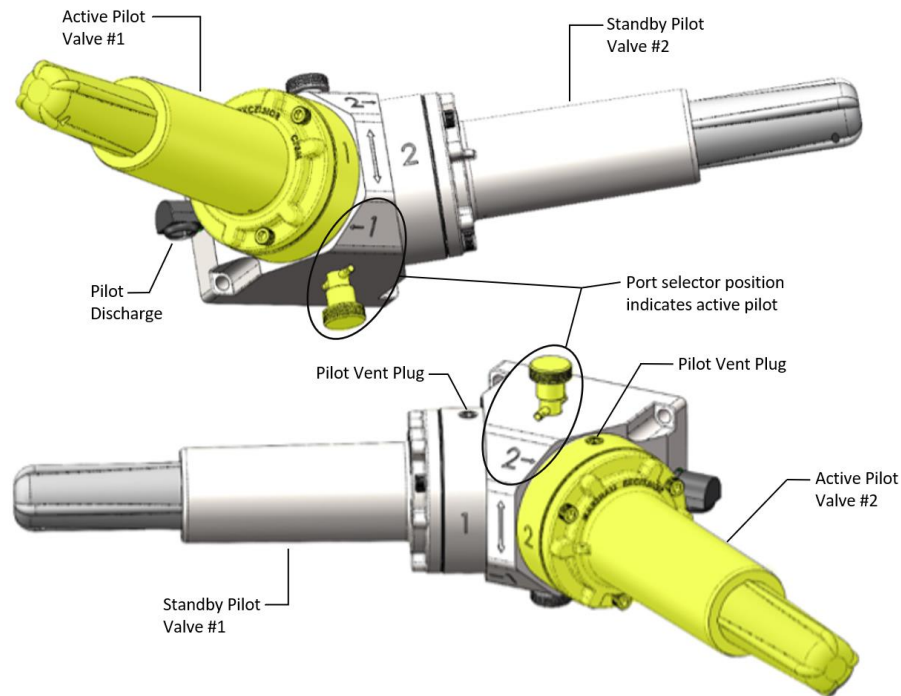

FIGURE 3: ME910PK Pilot Kit
2. Release all pressure from the main valve and pilot by opening the two upstream vent plugs until the trapped pressure starts bleeding out, see Figure 3.
It is recommended to switch the pilot selector yearly to activate alternate pilot, see Figure 3. It is also recommended to replace both pilots every 10 years. Since the elastomer seals in relief valve are subject to normal deterioration, MEC™ recommends that a relief valve not be used for longer than 15 years without repair, retest or replacement. Earlier repair or replacement may be required due to service conditions or code requirements. If leakage observed from the relief valve during inspection, the main seals should be replaced, and the relief valve retested or the relief valve replaced immediately.
1. To easily identify the active pilot, check the direction of pilot selector assembly. The port selector position indicates active pilot. See Figure 3.